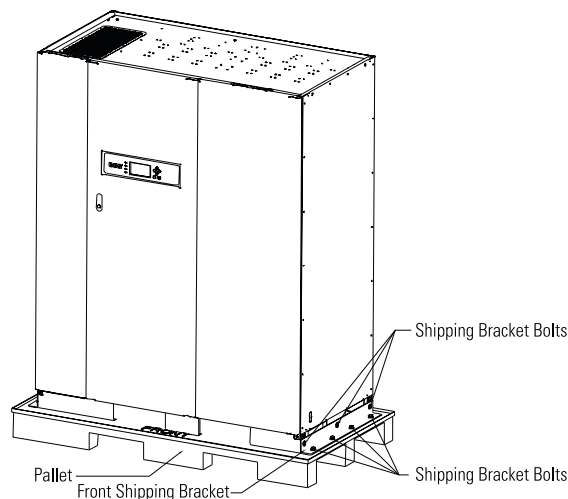

Figure 4-1: Removing the shipping bracket
2. Remove four bolts securing the front shipping bracket to the cabinet and four bolts securing the bracket to the pallet (see *Figure 4-1: Removing the shipping bracket* on page 23). Remove the shipping bracket. If installing the cabinet permanently, retain the shipping bracket and securing hardware for later use.
5. Using the retained hardware, reinstall the shipping brackets removed in Step 2 a to the front and rear of the UPS cabinet with the angle facing outward (see *Figure 4-1: Removing the shipping bracket* on page 23).